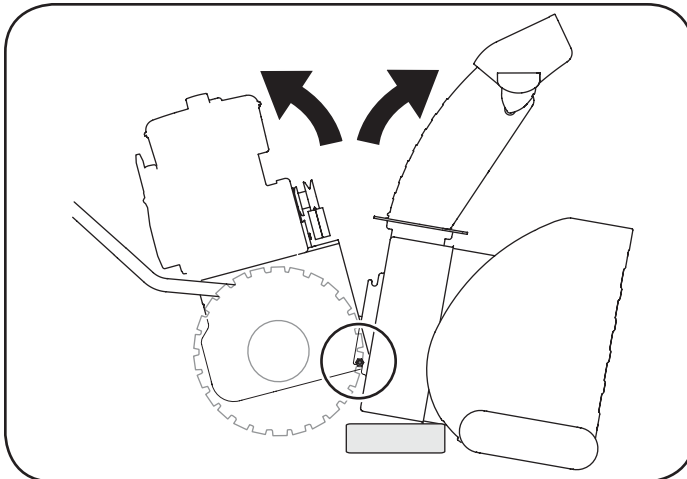

Figure 28
8. Place a block of wood underneath the auger housing as shown in Figure 28 and separate auger housing from the frame by tilting the housing forward and pulling up the handles.